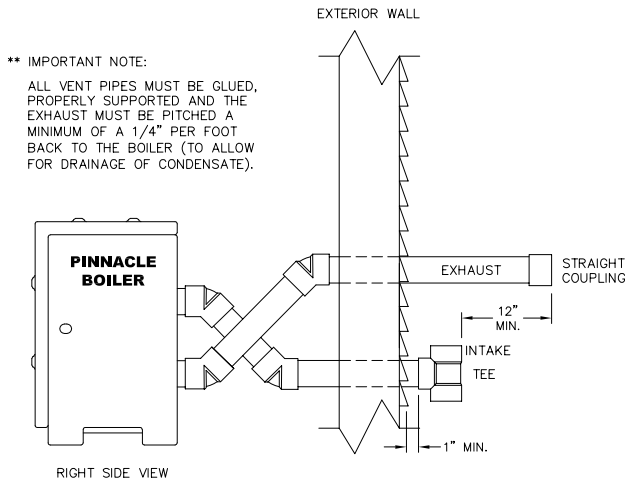
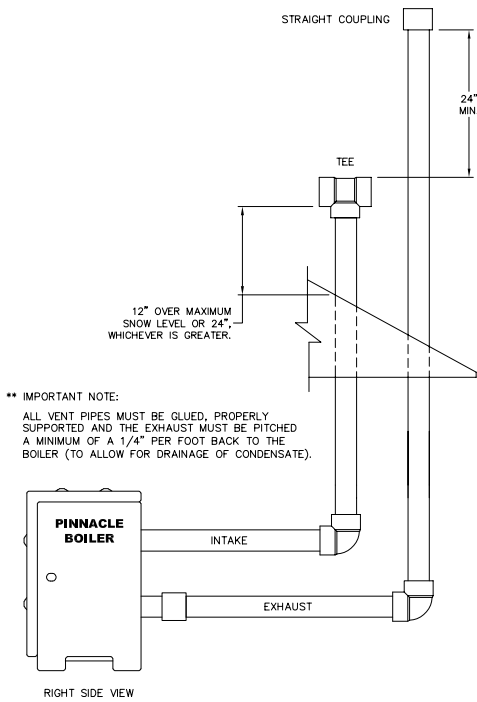

Figure 5.3: PI-80, PI-140, and PI-199 Sidewall Venting with 3" Pipe (Exhaust Termination at Higher Elevation than Air Intake).
Figure 5.11: PI-80, PI-140, PI-199 Vertical Venting with 3" Pipe.
12. Refer to Figure 5.3 to 5.10 for sidewall venting and Figures 5.11 to 5.14 for vertical venting.